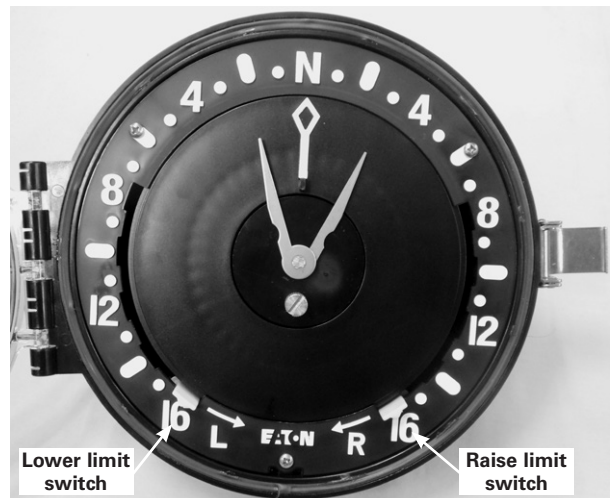

Figure 7. Limit switch positions
- Set both the lower and raise limit switch to 16 L and 16 R. This will make it easier to insert the new DHR solenoid. See Figure 7.